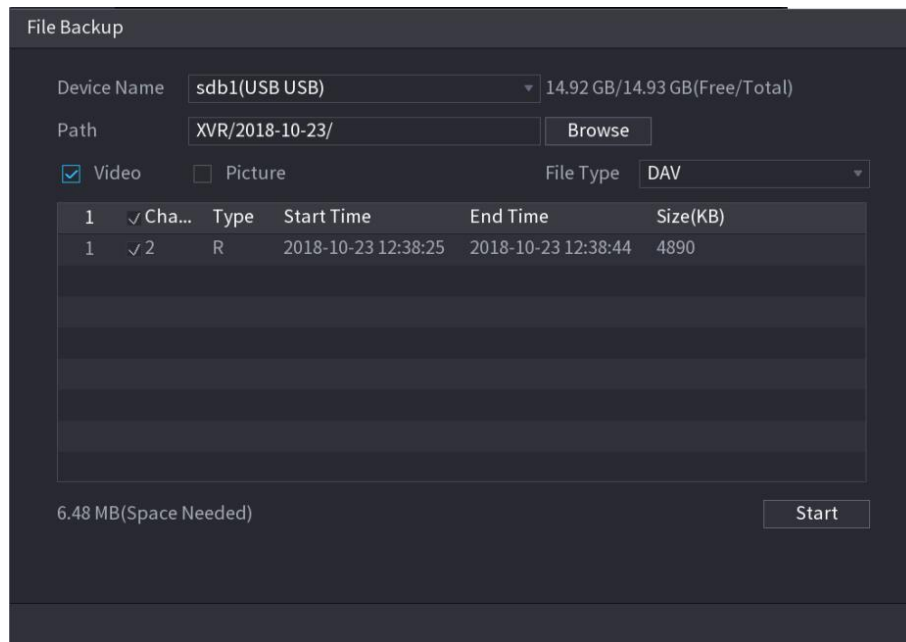

Figure 5-163
- To back up the recorded files to the external storage device, select files, click **Backup**, select the save path and file type, and then click **Start**. See Figure 5-163.